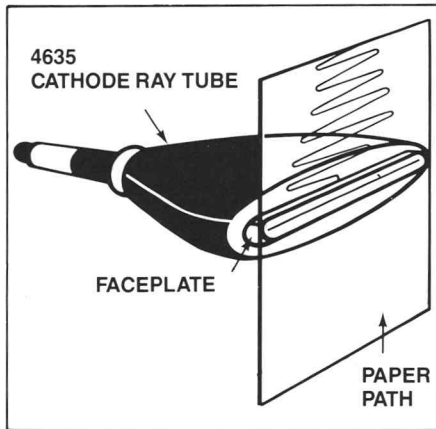

Figure 1.
*Line-scan mode.* In line-scan mode, information is presented a line at a time along the long axis of the faceplate, building up successive lines in a contiguous fashion (Fig. 1). Recording is continuous, and paper speeds range from 10-100 mm/s.